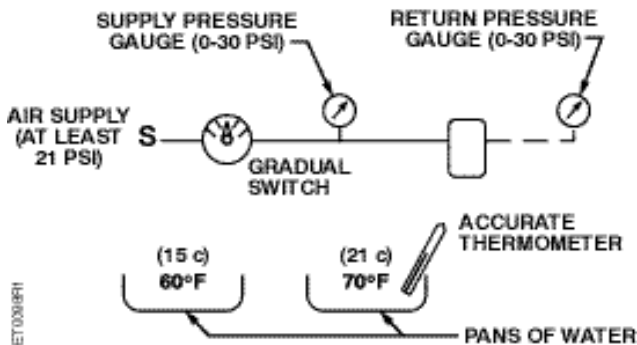
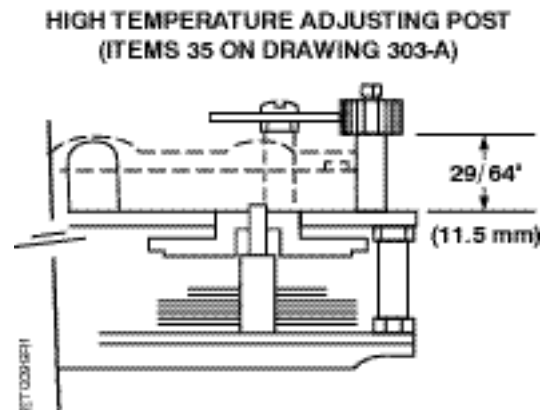

Figure 1. Test Equipment.
Figure 2.
(See Figure 1)
1. Obtain and set up test equipment shown in *Figure 1*.
3. See that friction spring (53) is in position.
5. Remove both day (47) and night (51) temperature dials.
6. Turn day (high temperature) (48) adjusting post until the distance from the top of the lever bearing plate to the bottom of the dial pinion is 29/64" (11.5 mm) as shown in *Figure 2*.
7. Completely immerse thermostat in 70°F (21°C) water with supply pressure 18 psi (124 kPa). Carefully turn valve adjusting screw (35) until return pressure is 7-1/2 psi (51.7 kPa). Allow several minutes to ensure that entire thermostat has reached this temperature.
13. Check changeover pressure as mentioned in item 9, *Field Calibration*.